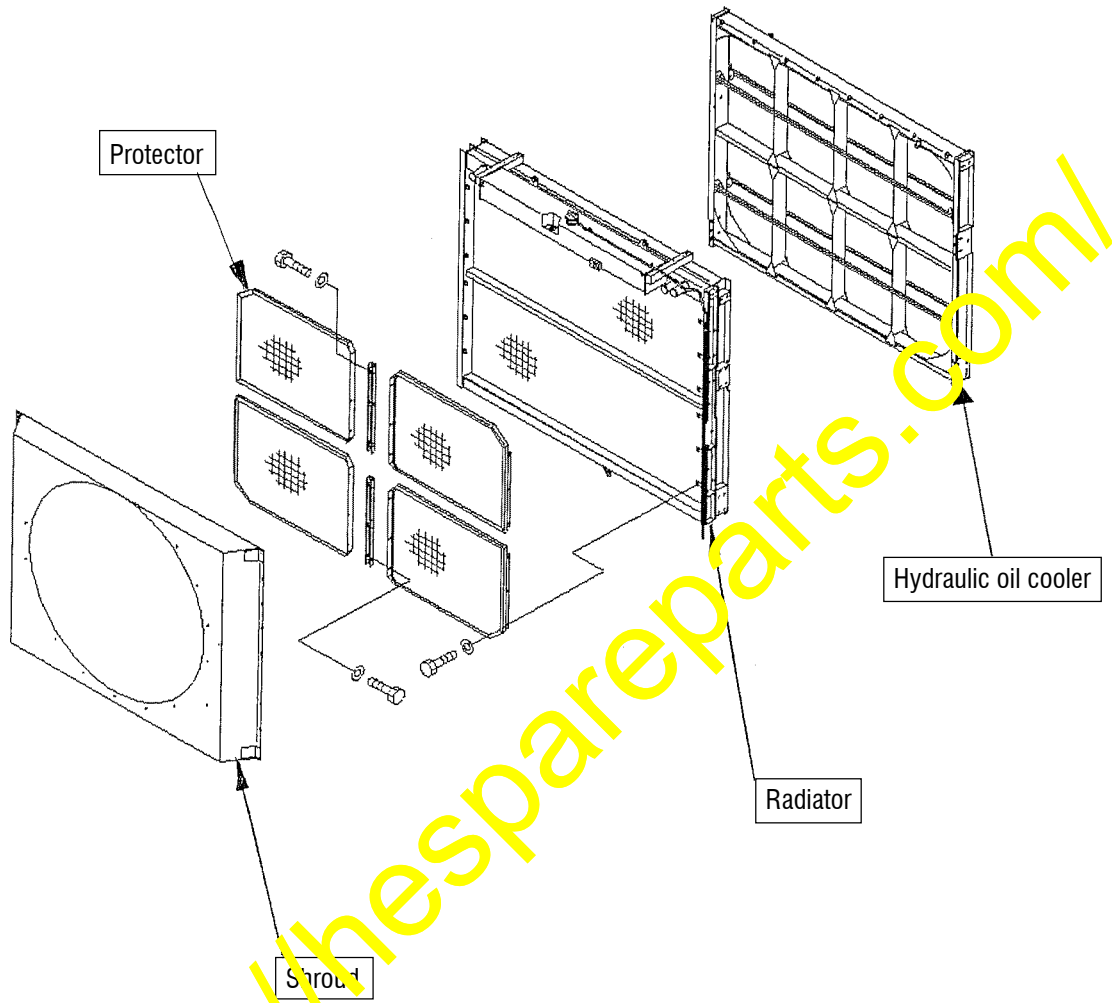

Fig. 1
- Replace the Hydraulic oil cooler (See Fig. 1)
Replace the hydraulic oil cooler located behind the radiator as shown in Fig. 1.